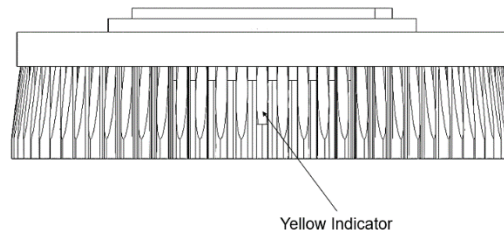

FIG.31
5. Replace the pads when they no longer clean effectively. Replace the brushes when they no longer clean effectively or the bristles have worn down to the yellow indicator as shown in FIG.31.